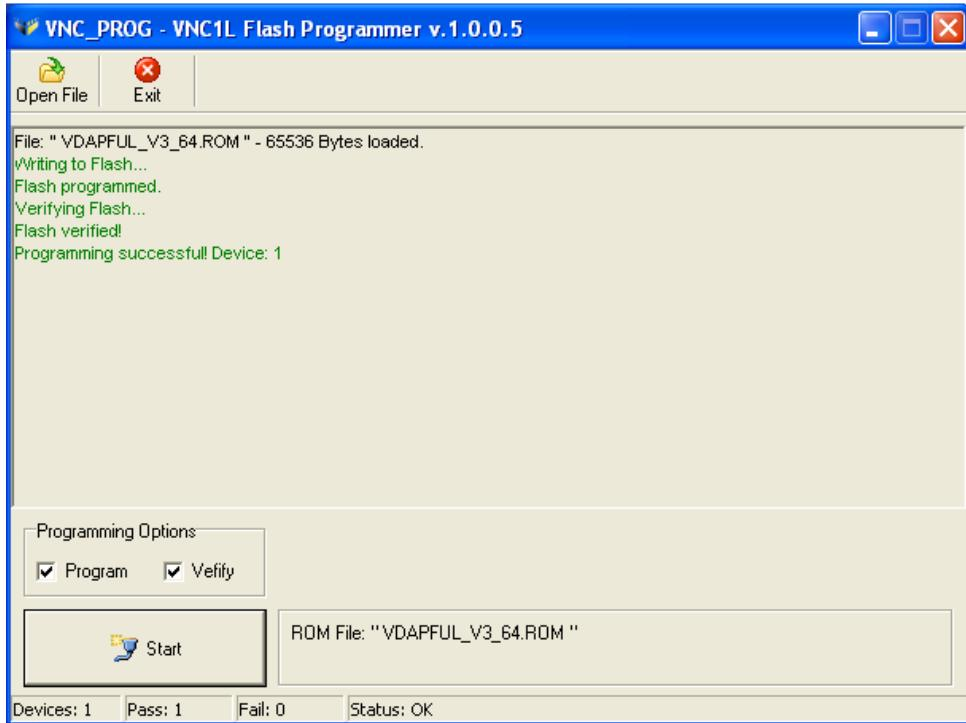

Figure 3.8 VPROG-1 Completion of Programming VNC1L-1A
- When programming is complete, check that the PASS LED is ON. This indicates that programming is complete. The user interface, when complete, is shown in Figure 3.8: